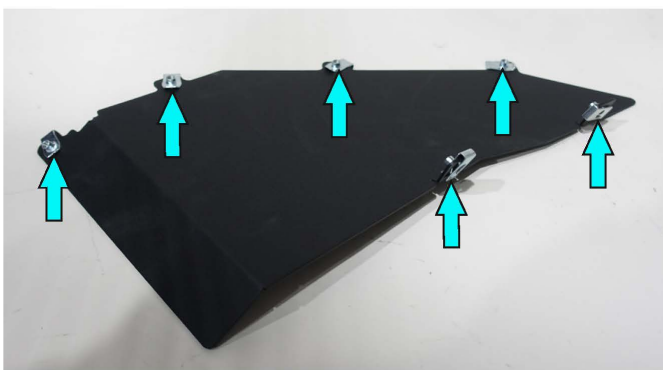

Fig.58
58. Fit U-nuts M6 (item R) on flaps (item 28, 29) (fig. 58).